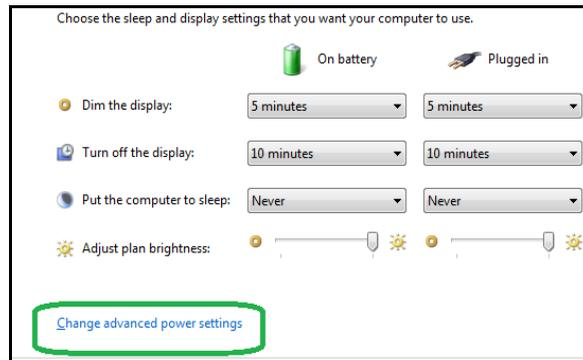

FIGURE 3-6 Advanced Power Settings
Step 4 Click **Change advanced power settings**, as shown in Figure 3-6.
Step 1 Click **Control Panel > Power Options >** and then click **Change advanced power settings** as shown previously in Figure 3-6.